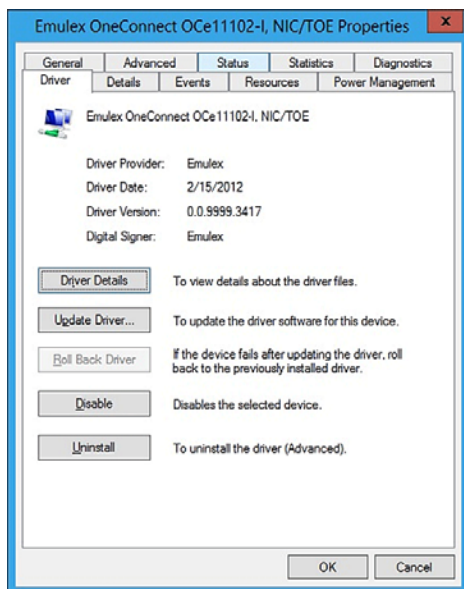

Figure 2-5 Emulex OneConnect NIC/TOE Driver Properties page
3. Open the **Network Adapters** item, find the Emulex OneConnect device and right-click. Select **Properties** from the context-menu. The OneConnect Properties dialog box opens. See Figure 2-5.
3. Open the **Network Adapters** item, click the Emulex OneConnect device and right-click. Select **Properties** from the context-menu. The OneConnect Properties dialog box opens showing the Driver page. See Figure 2-5 on page 63.